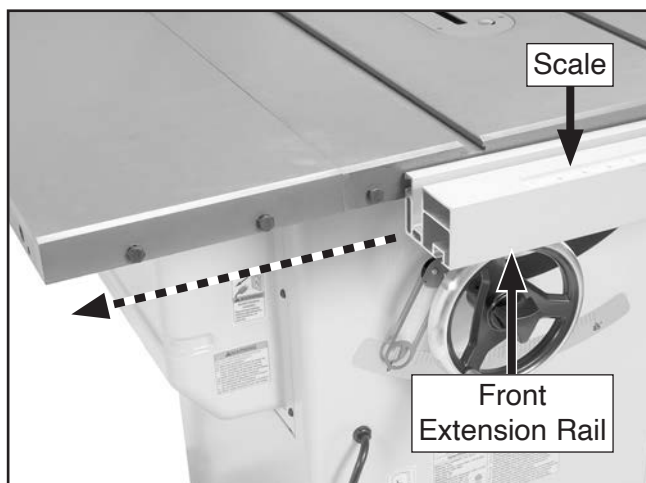

Figure 6. Front extension rail partially installed.
8. Slide front extension rail onto fasteners from **Step 5** (see **Figure 6**). Ensure scale on front extension rail is facing up. Hand-tighten fasteners for now.